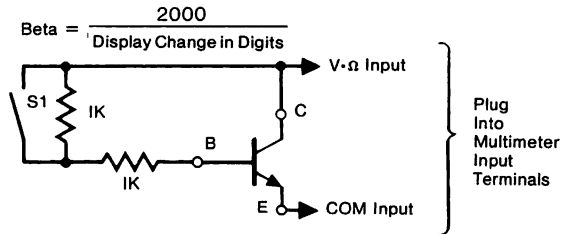

Figure 5. Test Fixture for Beta Measurements
The transistor beta test setup is shown in Figure 5 for an NPN transistor. For PNP transistors, the connections to the Multimeter should be reversed.
1. With all the connections made as shown in Figure 5 and with switch S1 open, record the displayed reading (ignore decimal point).